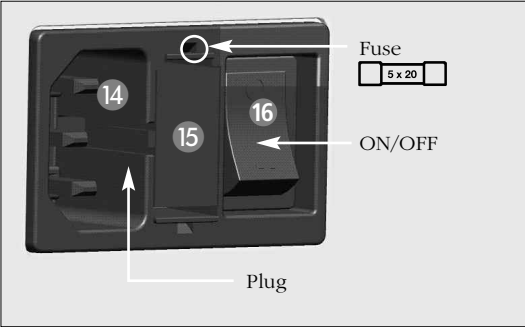

fig. 1
C. The apparatus is powered by your line voltage (100/115/230 Vac). Connect the power cable to the plug **fig. 1**.